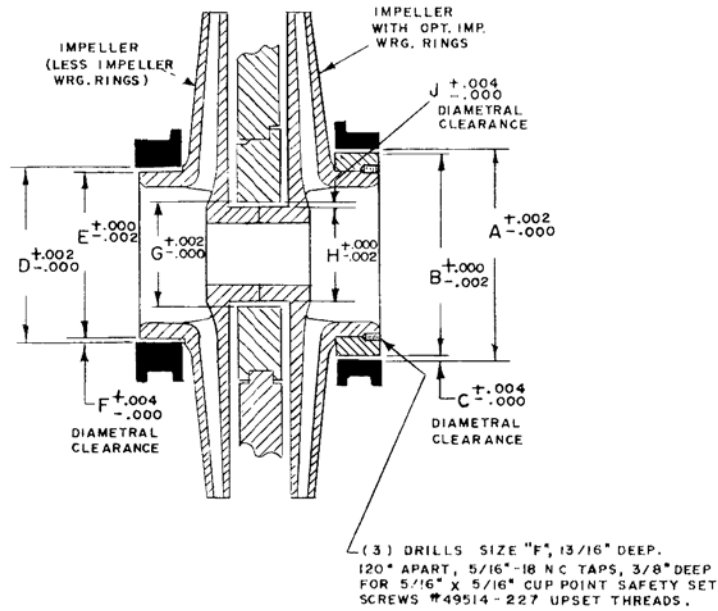

Figure 20:
The original diametral clearance between the impellers and case wearing rings for different materials is shown on Figure 20: on page 39. Clearance between casing wearing rings and optional impeller wearing rings is also shown. When hydraulic performance is reduced substantially, the casing rings and/or impeller rings should be replaced. The diametrical clearance on one impeller should not exceed the clearance on the other impeller in the same pump by more than .003".
- Drill and tap three holes 120° apart in each ring. Use "F" drill 13/16" deep with 5/16" - 18 NC taps 3/8" deep. Use 5/16" x 5/16" cup point safety set screws. Tighten screws and lightly "up-set" threads. See Figure 20: on page 39.
- Replacement impeller rings are supplied .021" to .039" oversize and must be turned to size after mounting on impeller. See Figure 20: on page 39 for dimensions.
The impellers should tap easily on the shaft. If the impellers do not tap on readily, the bore and shaft should be inspected to see that they are free from foreign matter or burrs. The fit of the key in the keyways should also be checked to see that it is not causing binding. See Figure 20: on page 39.
The original diametric clearance between the impeller and diaphragm is shown in Figure 20: on page 39. When performance is substantially reduced, or when the diametrical clearance exceeds 0.035", the diaphragm and, at times, the impeller should be replaced.
15. Place deflectors (123) on shaft.
18. Although the thrust and coupling end ball bearings are different, they are installed in a like manner as follows: Apply a film of oil to the bearing seat on the shaft. Start bearing "square" and drive on about 1/8", keeping bearing square at all times. Use a driving sleeve as shown in Figure 19 and Figure 20. Note that the outside diameter of this sleeve should never be larger than the outside diameter of the inner race of bearing. Next slip the bearing housing over the ball bearing toward the
19. Screw shaft nut (110) on shaft and tight against bearing (112).